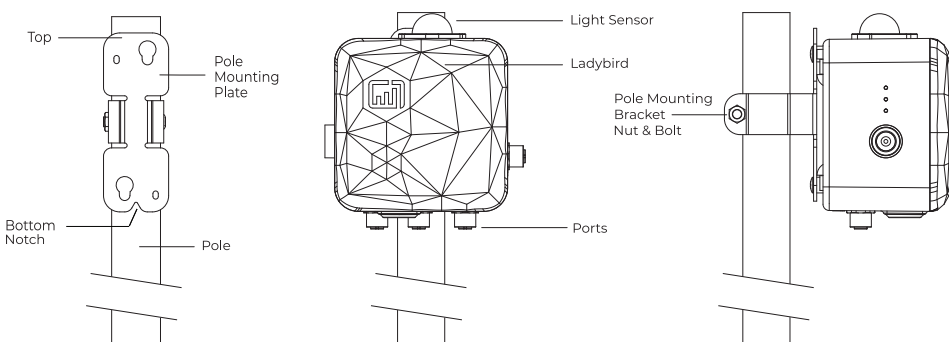

Figure 3: Pole mounting
- Install and secure the pole mounting plate to the pole using the included bolt and nut, then hang the device on the plate as shown in Fig. 3.